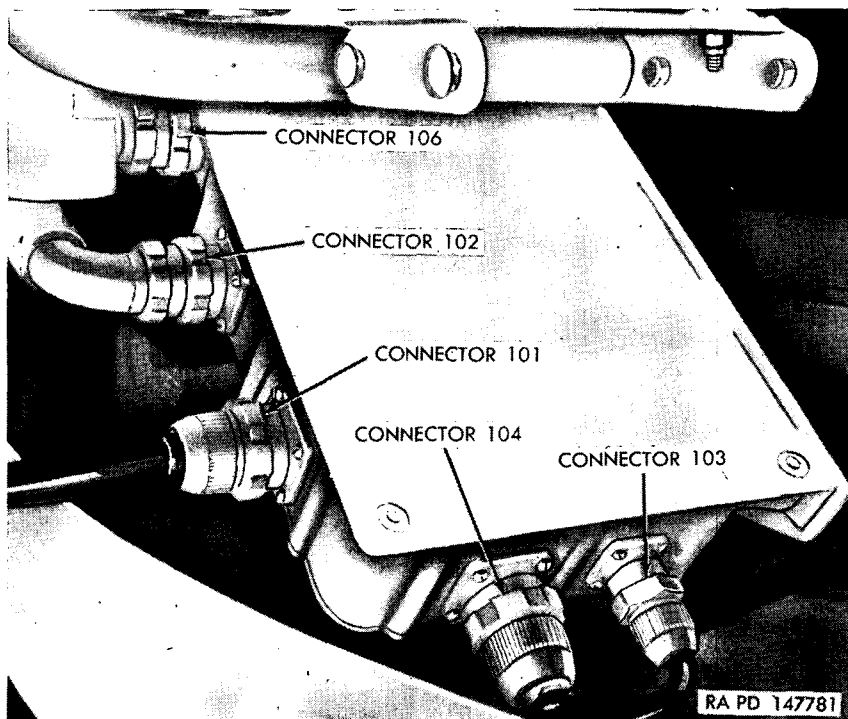

Figure 300. Override motor control box.
b. **OVERRIDE MOTOR CONTROL BOX.** The override motor control box (fig. 300) is located on the turret floor to the rear of the gunner's control mechanism. The box connects the commander's and gunner's control mechanisms to the turret traversing and gun elevating electric motor and contains two relays to enable the commander's control circuit to override the gunner's control circuit. Refer to figure 299 for a wiring diagram of the override motor control box.
282. Override Motor Control Box (fig. 300)